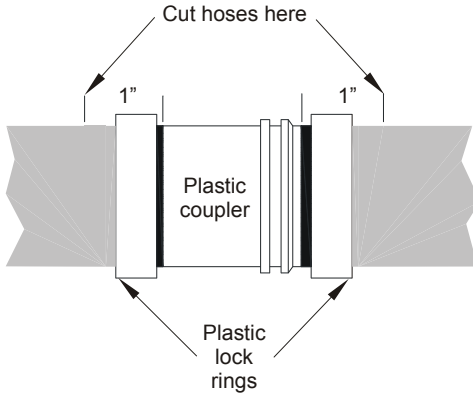

Figure 4.2
- At the lower front cross-member, cut the lower radiator hose right after the plastic clamps at the coupler on each side and discard the OEM plastic coupler (Figure 4.2).